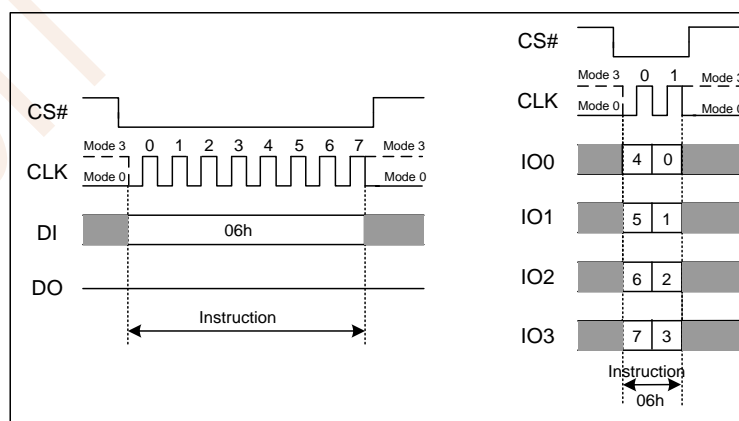

Figure 7.2 Write Enable Instruction (SPI or QPI Mode)
The Write Enable instruction (Figure 7.2) sets the Write Enable Latch (WEL) bit in the Status Register to a 1. The WEL bit must be set prior to every Page Program, Sector Erase, Block Erase, Chip Erase and Write Status Register instruction. The Write Enable instruction is entered by driving CS# low, shifting the instruction code "06h" into the Data Input (DI) pin on the rising edge of CLK, and then driving CS# high.